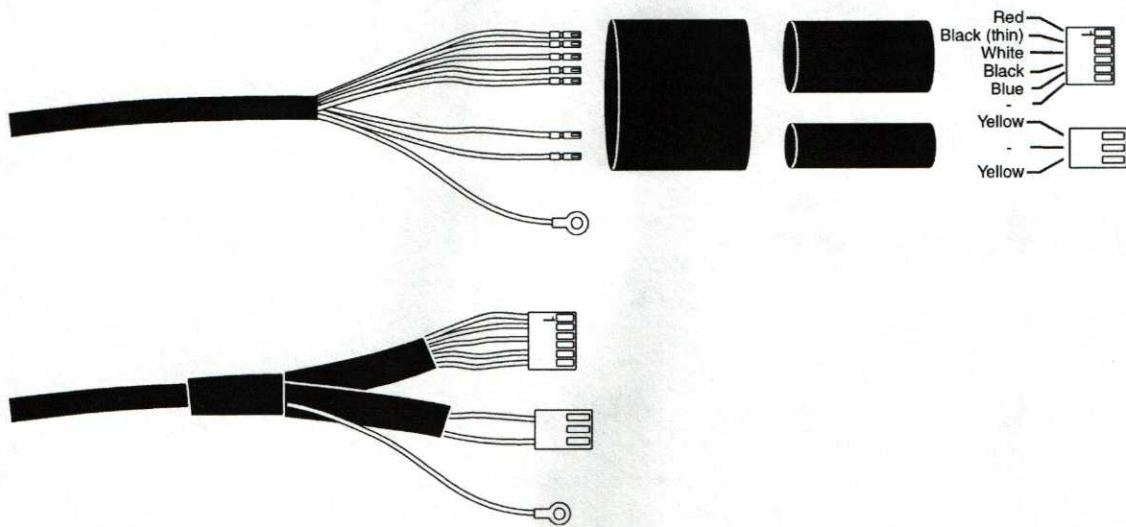

Figure 20
- s) Connect the arm cable leads to the connectors as described in Fig. 20 below.